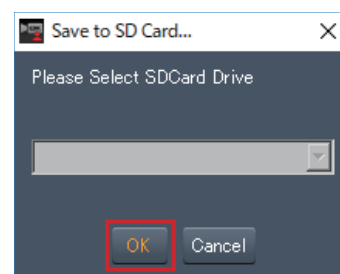

Fig. 2
4. Select the SD card to save to and click [OK]. (Fig.2)